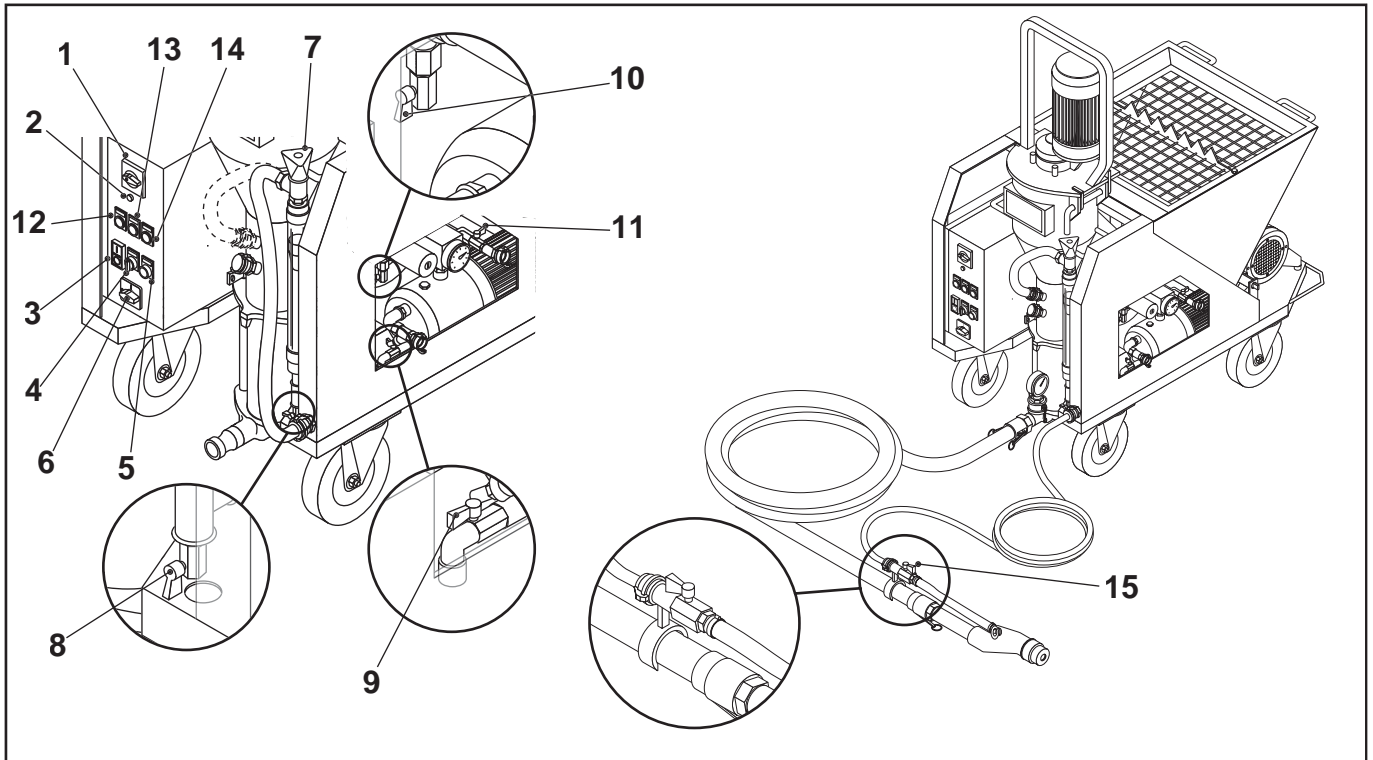
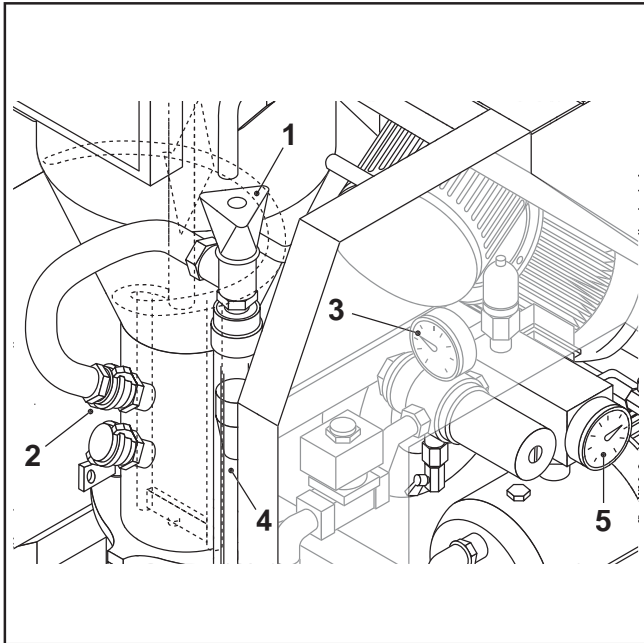

FIG.21
FIG.23
Start the machine by turning the master switch (FIG.21-REF.1) to position 1: the BLUE indicator switches on (FIG.21-REF.3). This indicates the correct power supply voltage: with correct voltage the indicator stays on. If the indicator light should switch off on start-up, it means that the voltage is not sufficient. Check that the power supply line has been made correctly (cable section and site electric control board power supply).
By positioning the master switch at 1 or 2 (FIG.21-REF.1) the following switch on:
- the red indicator light (FIG.21-REF.13) (anomalies signal),
- the blue indicator light (FIG.21-REF.12) for line presence if the line voltage is sufficient,
- the green indicator light (FIG.21-REF.14) for water pressure presence switches on when there is sufficient pressure in the water system. If the water is supplied from a barrel the green indicator light (FIG.21-REF.14) only switches on with the water pump inserted.
- put the master switch in position 1 (FIG.21-REF.1) and the water pump switch in position (FIG.21-REF.4) then observe the pressure indicated by the manometer (FIG.23-REF.5),
- Press the button (FIG.21-REF.2) and then turn the master switch to position 2 (FIG.21-REF.1), keeping the water pump switch in position 1 (FIG.21-REF.4) then observe the pressure indicated by the manometer again (FIG.23-REF.5).
- To change the position from 1 to 2 or vice versa on the reverser master switch (FIG.21-REF.1) press the red button at the same time (FIG.21-REF.2).
- Disconnect the pipe (FIG.23-REF.2) that takes the water into the mixing chamber by holding the water supplement button down (FIG.21-REF.8).
- Adjust the flow meter (FIG.23-REF.4) to 800 l/h via the cock (FIG.23-REF.1) and then re-connect the pipe (FIG.23-REF.2).
- Press the water supplement button for about 3 seconds (FIG.21-REF.5).
- By pressing the start switch green button (FIG.21-REF.3) the material pump is activated and the red indicator switches off (FIG.21-REF.13).
- Insert and disconnect the material dispenser switch (FIG.21-REF.6) with the following sequence:
- Adjust the flow of water using the cock (FIG.21-REF.7) until the desired consistency of the mixture is desired.
At this point, start to operate normally: the opening and closing of the pneumatic control (FIG.21-REF.15) to the gun determines starting and stopping of the machine.